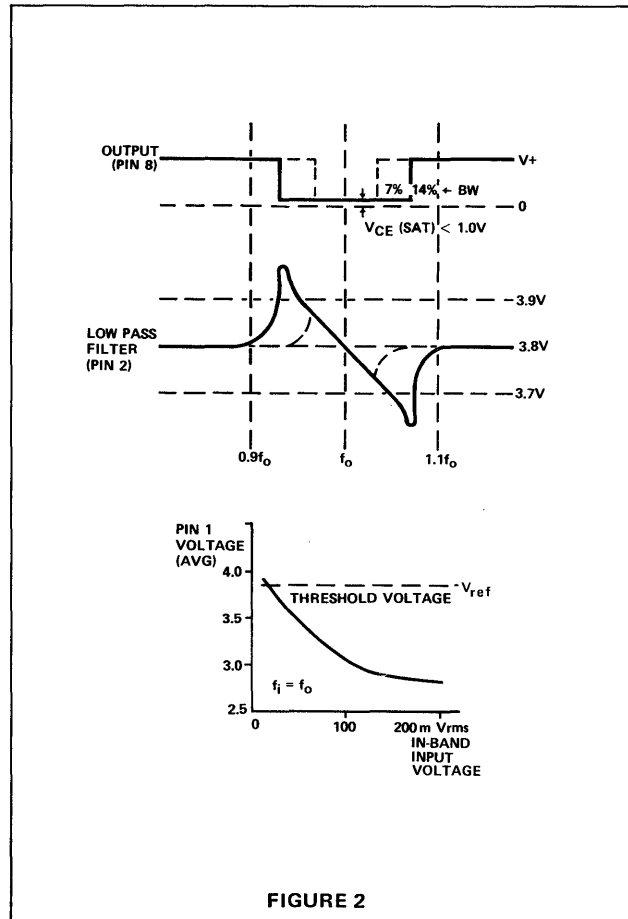

FIGURE 2
**AVAILABLE OUTPUTS** (Figure 2)